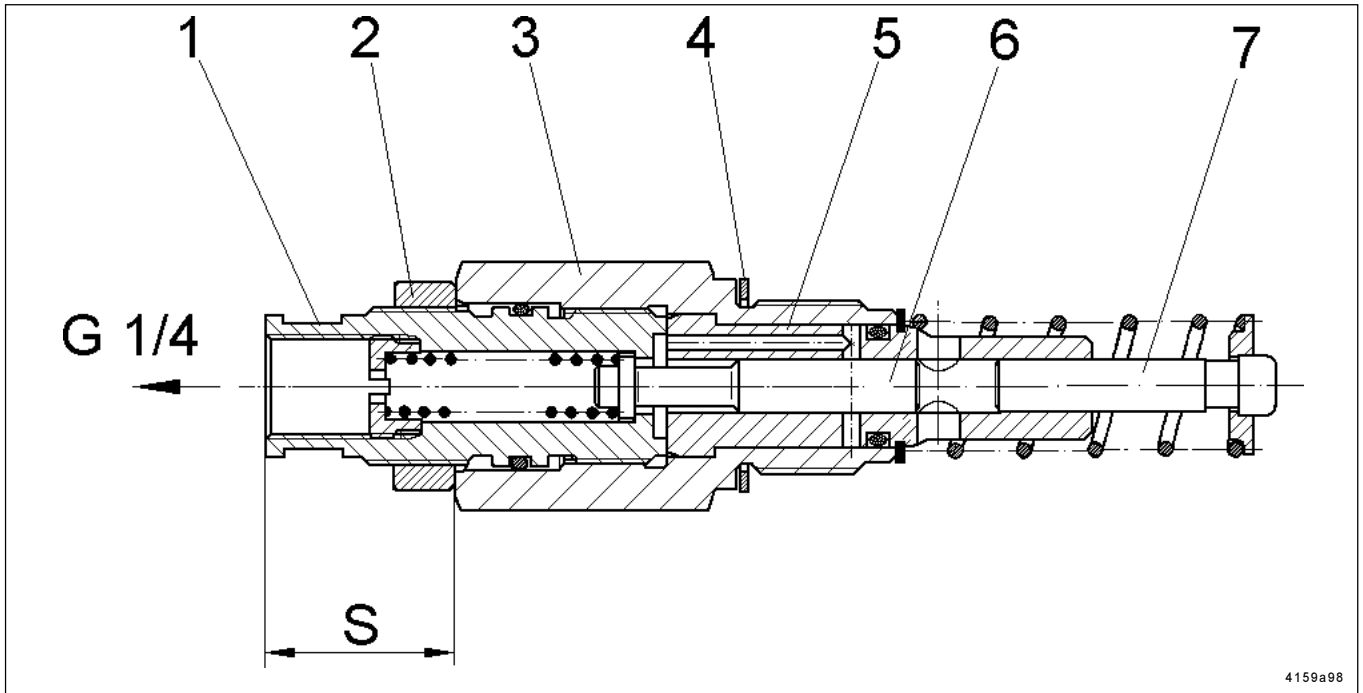
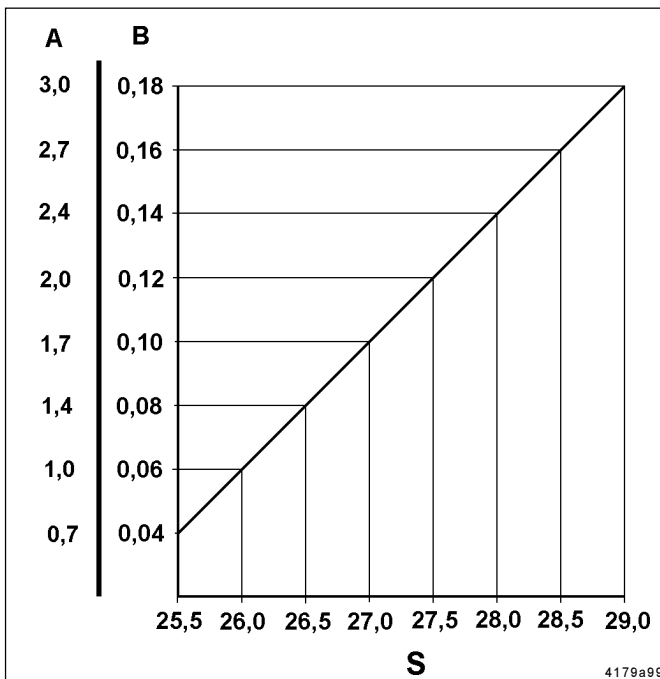

Fig. 12 - Sectional view: Adjustable pump element
Fig. 13 - Delivery diagram
- The pump elements are factory-set to the maximum lubricant output whereby the adjusting size „S“ should be 29 ± 0.1mm (fig. 12).
- * Loosen counter nut (2, fig. 12) while holding in position pump element body (3) by means of a second wrench.
- * Adjust the regulating spindle (1) by means of a wrench, see output diagram (fig. 13)
- * The size „S“ (see fig. 12) for the desired lubricant output can be ascertained by using the delivery diagram shown in fig. 13.
- * Unscrew the adjusting spindle (1, fig.12) out of the pump element body (3) until „S“ is approx. 30 mm.
- * Screw counter nut (2) onto stop collar of the adjusting spindle (1).
- * Screw adjusting spindle (1) with counter nut (2) into pump body (3) until stop.
- * Dimension „S“ must be adjusted to the desired value in accordance with the delivery diagram (fig. 13).